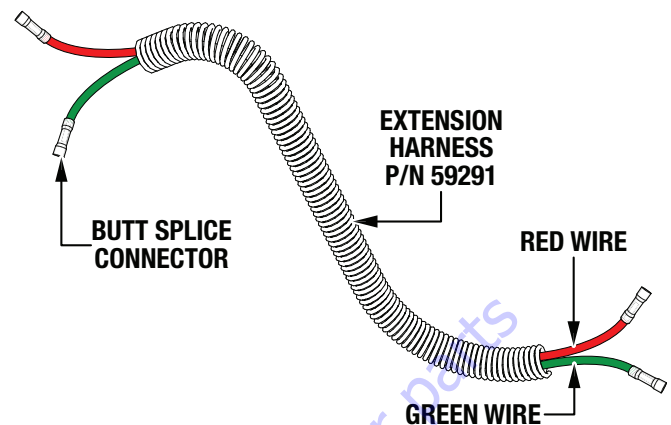

Figure 10. Wiring Extension Harness
- The wiring extension harness (P/N 59291) contains a red wire and a green wire. There are butt splice connectors crimped onto each end of both wires. See Figure 10.